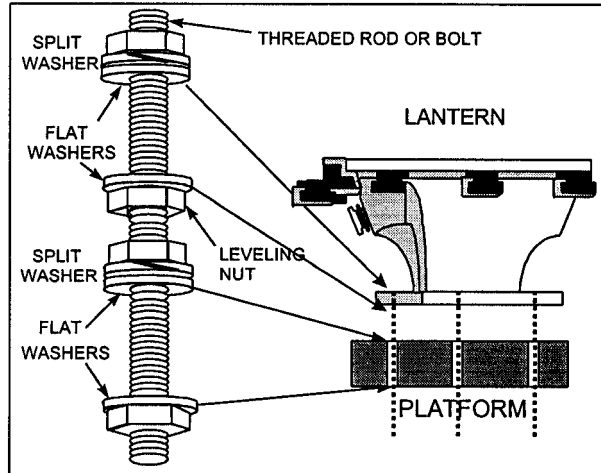

Figure 2-12
- a. Install three (3) threaded rods or bolts on the platform as shown in Figure 2-12. Add the leveling nut and flat washer at this time.